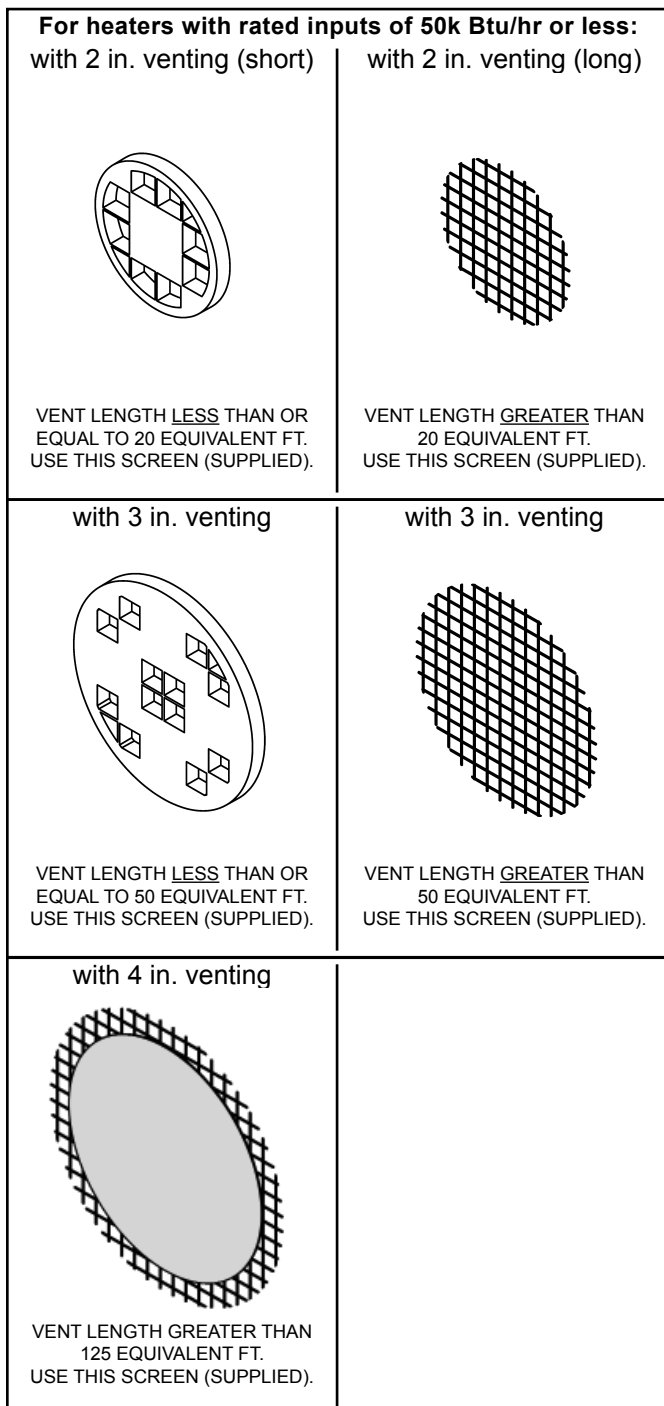
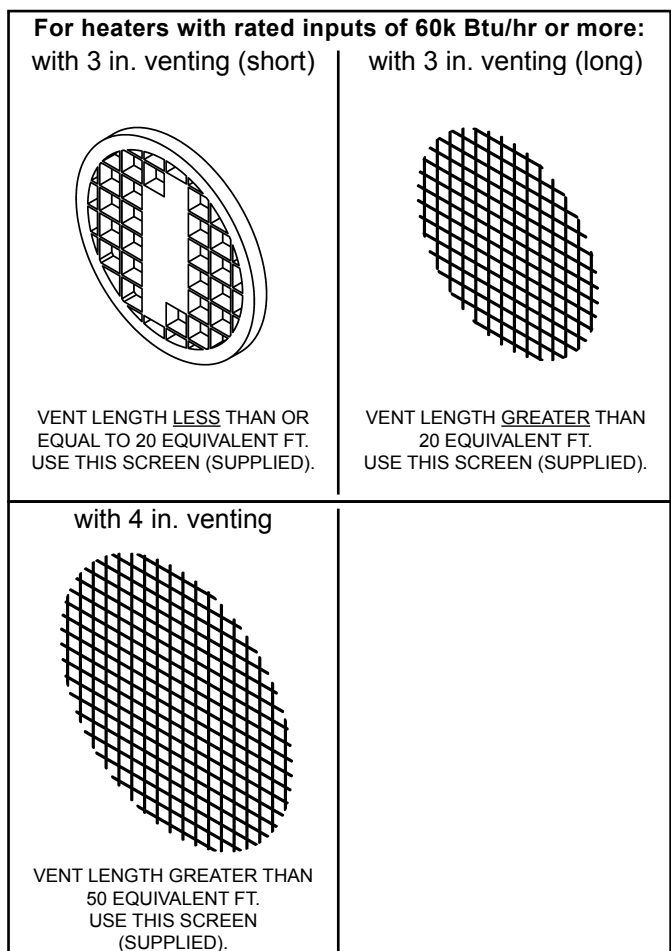

Figure 31.
Figure 32.
- Supplied with this heater are several vent termination screens (see Figure 31 & Figure 32).
Installed in the vent termination elbow, the vent screen is required to keep foreign objects, rodents and small birds from entering the venting system. These screens have been sized to ensure maximum energy efficiency of the vent system based on the "equivalent length" of the vent piping. **CHOOSE ONLY the ONE SCREEN THAT MATCHES YOUR VENTING CONFIGURATION** (see Figure 31 & Figure 32). How to determine the "equivalent length" is shown in Figure 33 and in Table 2.
11. Install the properly sized rodent screen into the outlet elbow and secure with a small quantity of silicone sealant. Refer to Figure 31 & Figure 32 to determine the proper screen.